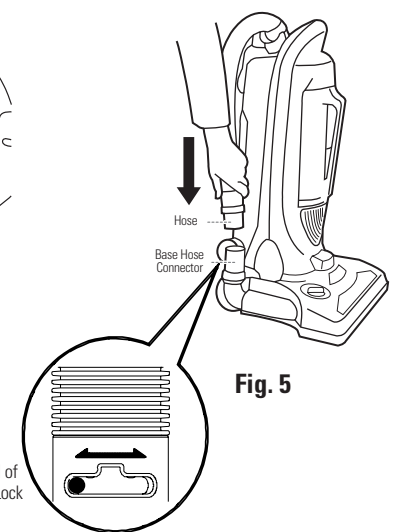

Fig. 5
- Insert the base end of the hose into the hose inlet on the base of the cleaner. (Fig. 5)